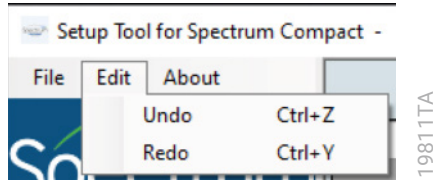

Figure 192. Edit menu.
7. Edit contains the Undo and Redo functions to undo or redo an edit made to a Strip (Figure 192). Use these functions to undo or redo an edit made to a strip.